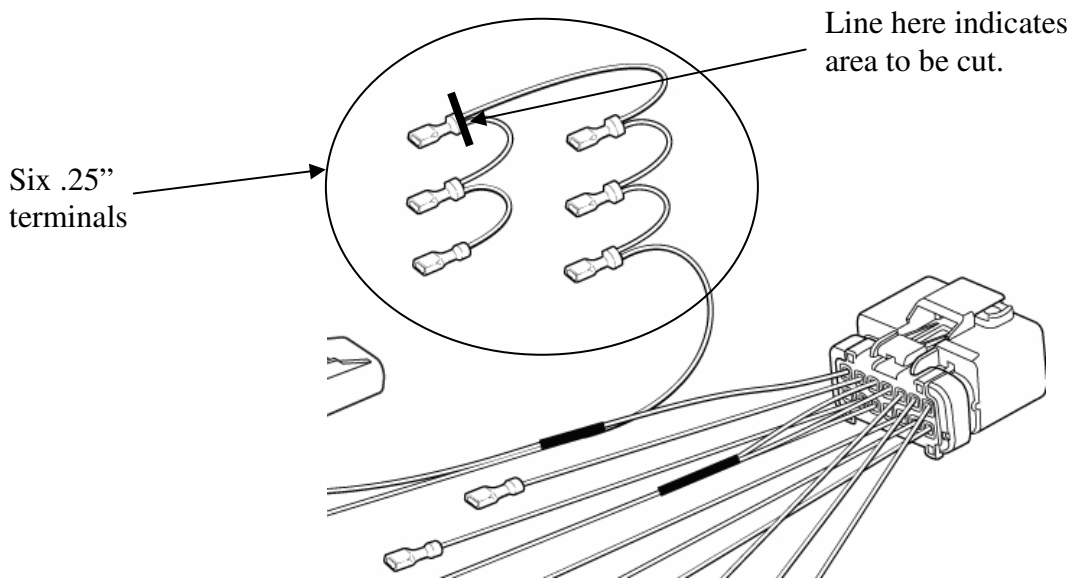

Figure 5
- Locate the red/white wire (pin 1) with the six .25" terminals attached. On the terminal detailed below cut wires directly behind terminal leaving as much wire as possible. Discard the three .25" terminals attached to the red/white wire. See figure 5 below.